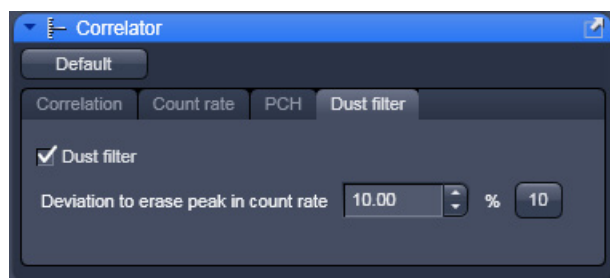

Fig. 294 Correlator tool - Dust filter active
- Click on the **Dust filter** tab to open the **Dust filter** panel (Fig. 294).